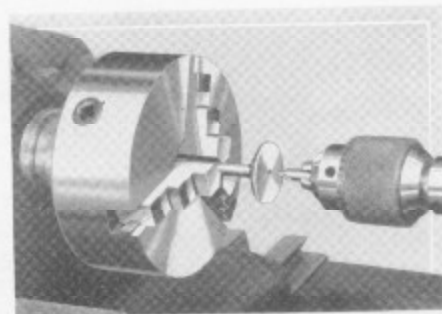

Fig. 36. Centering a Valve Head held in Chuck
**Drilling a Center Hole in a Valve Head.**—We recommend centering the valve head as shown in Fig. 36, especially if one has the time, because this insures accuracy. It is the correct method for holding the valve while refacing. This method has been explained in the preceeding two pages. It insures concentricity of the machined surface with the axis of the valve stem because when the face is concentric the stem operates in the valve stem guide more efficiently.